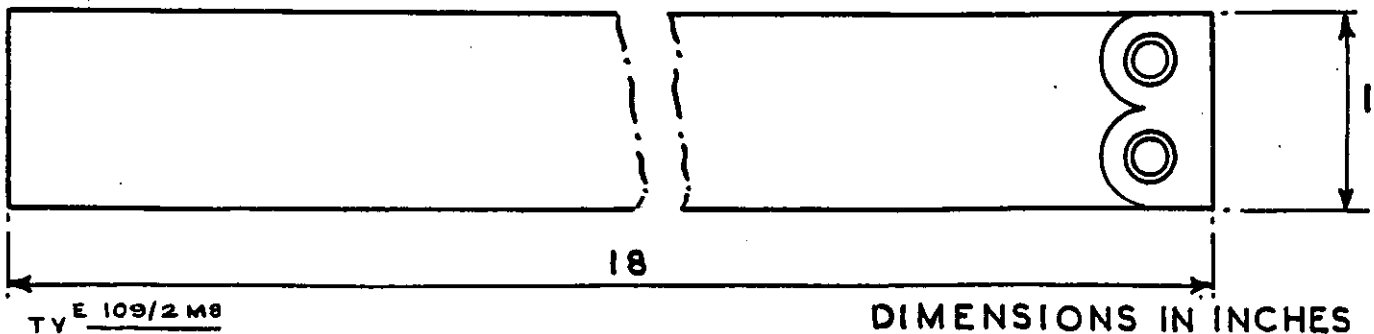

Fig 1 - Strap - detail.
5. a. See Fig 1: Manufacture two straps to the dimensions given.